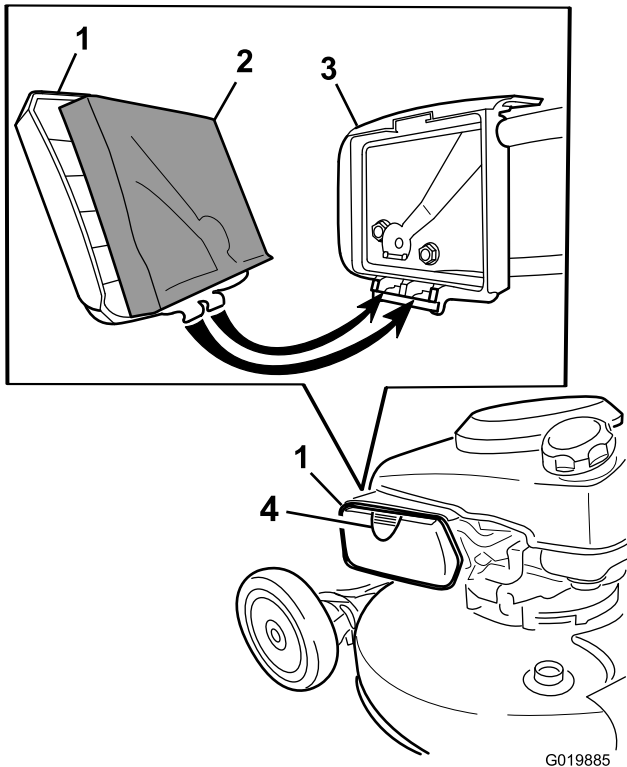

Figure 16
2. Press the button on the air cleaner cover (Figure 16) and open the cover.